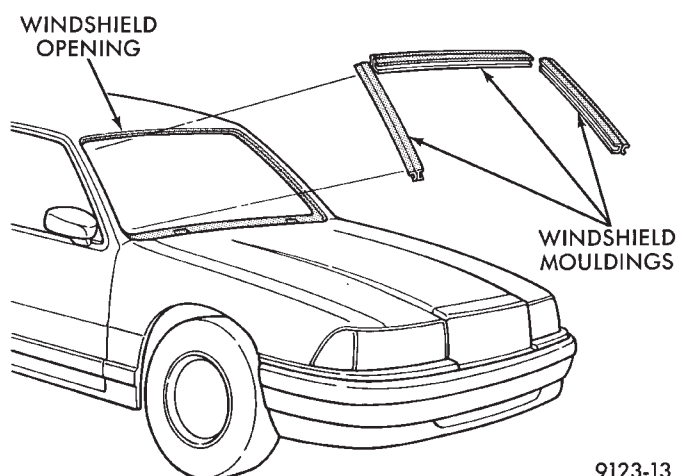

Fig. 1 Windshield Mouldings
- (1) Remove inside rear view mirror.
- (2) Remove cowl cover.
- (3) Remove windshield mouldings using a suitable hook tool and trim stick (Fig. 1).